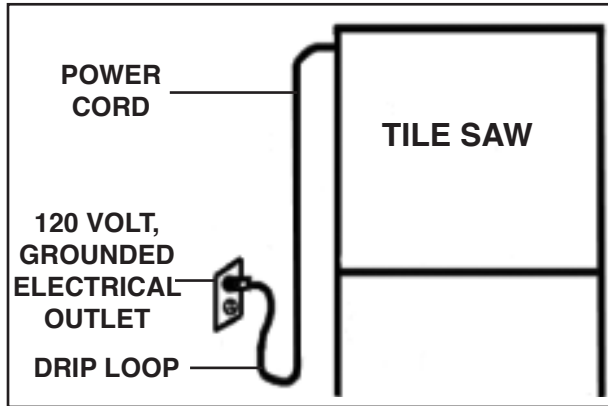

Figure 1
14. **Always arrange a “drip loop” in the Power Cord/Plug (34) connecting the Tile Saw to a 120 volt, grounded, electrical outlet.** A drip loop is that part of the Power Cord below the level of the outlet, or the connector if an extension cord is used, to prevent water traveling along the Power Cord and coming in contact with the outlet. If the Power Plug or electrical outlet *does* get wet, do not unplug the Power Cord. Disconnect the fuse or circuit breaker that supplies power to the tool. Then, unplug and examine for presence of water in the outlet. See Figure 1, above.
20. **Always keep the water level at the recommended level.** Fill the Tray (17) until it is about 3/4 completely submerged, but do not overfill.
21. **Avoid splashing water on the Motor (42), Power Switch, Power Cord/Plug, or any other electrical component.** Make sure to stand on a dry, insulated surface such as a rubber mat while using the Tile Saw.